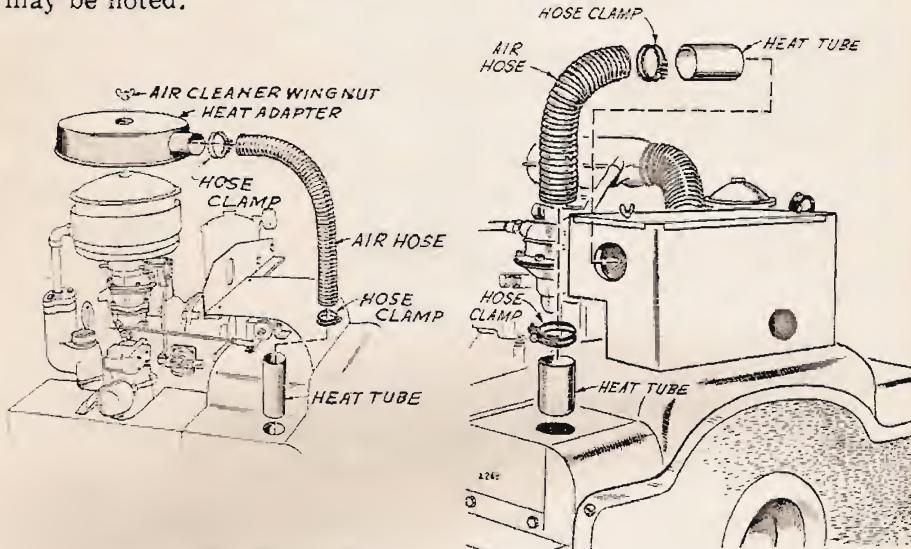

Fig. 13 Air Preheater Hose
**AIR PREHEATER HOSE KIT.** - An air preheater kit is supplied with all gasoline plants, for use in temperatures below 50°F. (10°C.). If a gasoline plant is to be operated in temperatures below 50°F., particularly if high humidity prevails, install the preheater kit. Refer to Fig. 13. Remove the sheet metal plug from the upper left corner of the engine blower housing. Assemble the hose to the air tube and insert the tube into the blower housing opening. Attach the other end of the air hose as shown, according to the type of air cleaner used. The preheater is not necessary when operating on gaseous (natural or LPG) fuel, AND SHOULD NOT BE USED.